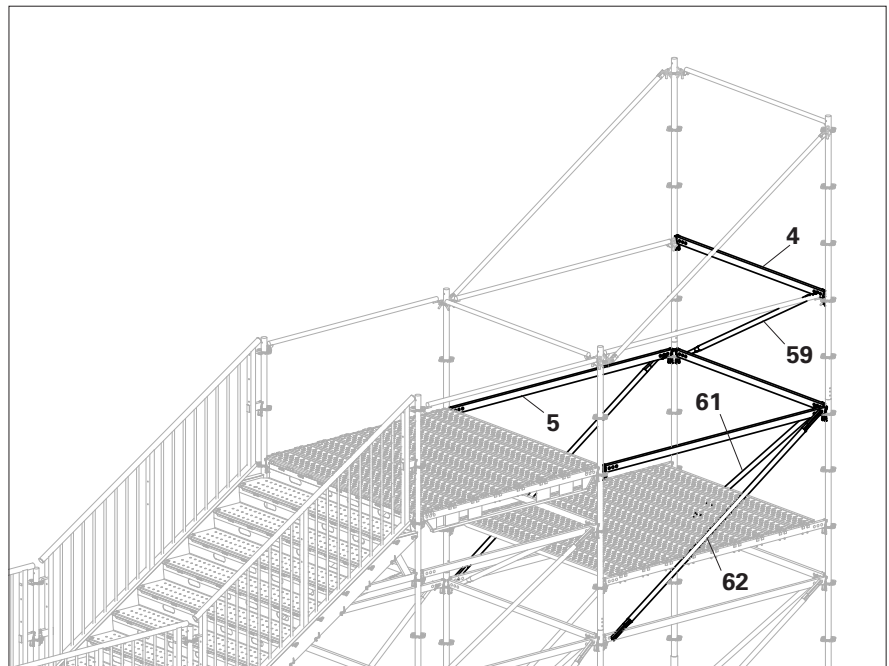

Fig. C1.20
2. Fit 1 x Ledger Brace UBL-2 200/150 (**61**), 2 x Ledger Brace UBL-2 250/150 (**62**) & 1 x Ledger Brace UBL-2 200/100 (**59**). (Fig. C1.20)